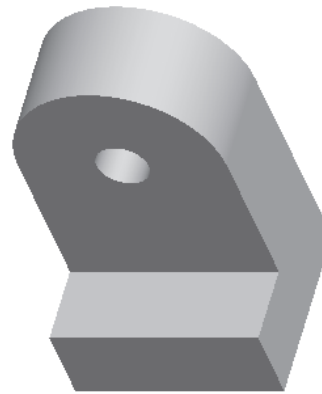

Figure 5-61 Second extruded feature with the base feature
7. Now, choose the **Build feature** button from the **Extrude** dashboard to confirm the feature creation. The model orients on the screen, as shown in Figure 5-61. You can also use the middle mouse button to spin the model.